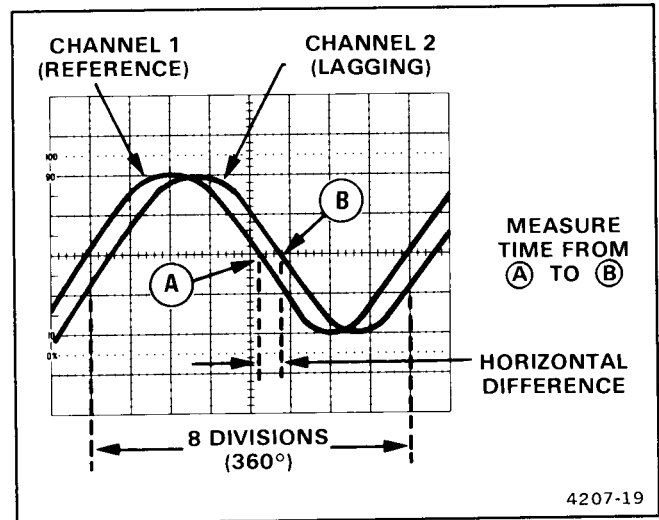
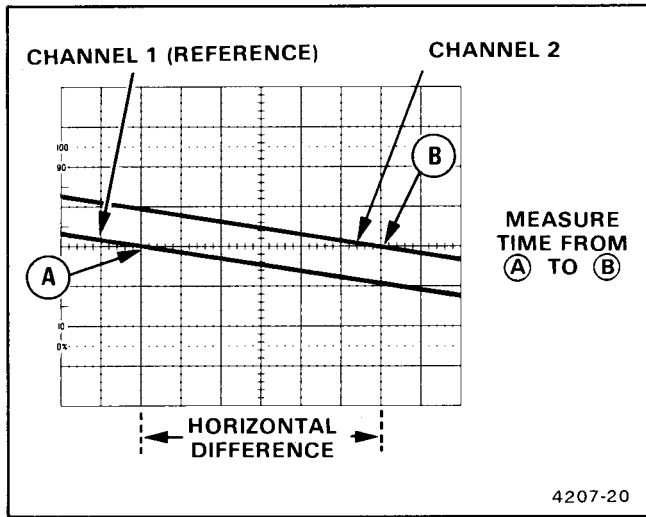

Figure 4-9. Phase difference.
Figure 4-10. High-resolution phase difference.
9. Position the displays and adjust the SEC/DIV Variable control so that one reference-signal cycle occupies exactly 8 horizontal graticule divisions at the 50% rise-time points (see Figure 4-9). Each division of the graticule now represents  $45^\circ$  of the cycle ( $360^\circ \div 8$  divisions), and the horizontal graticule calibration can be stated as  $45^\circ$  per division.
**EXAMPLE:** The horizontal difference is 0.6 division with a graticule calibration of  $45^\circ$  per division as shown in Figure 4-9.
**EXAMPLE:** If the sweep speed were increased 10 times with the magnifier (X10 Magnifier out), the magnified horizontal graticule calibration would be  $45^\circ/\text{division}$  divided by 10 (or  $4.5^\circ/\text{division}$ ). Figure 4-10 shows the same signals illustrated in Figure 4-9, but magnifying the displays results in a horizontal difference of 6 divisions between the two signals.